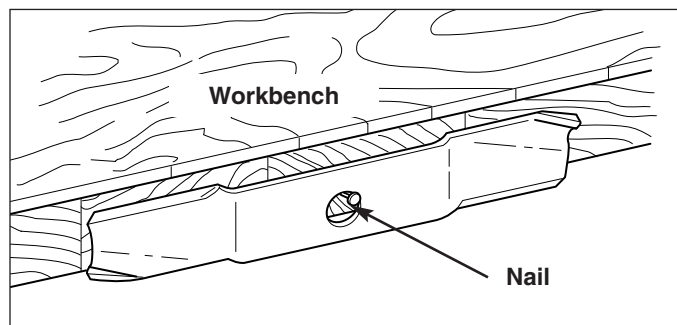

Figure 37. Balancing The Blade
5. Balance the blade as shown in Figure 37. Center the blade's hole on a nail lubricated with a drop of oil. A balanced blade will remain level.